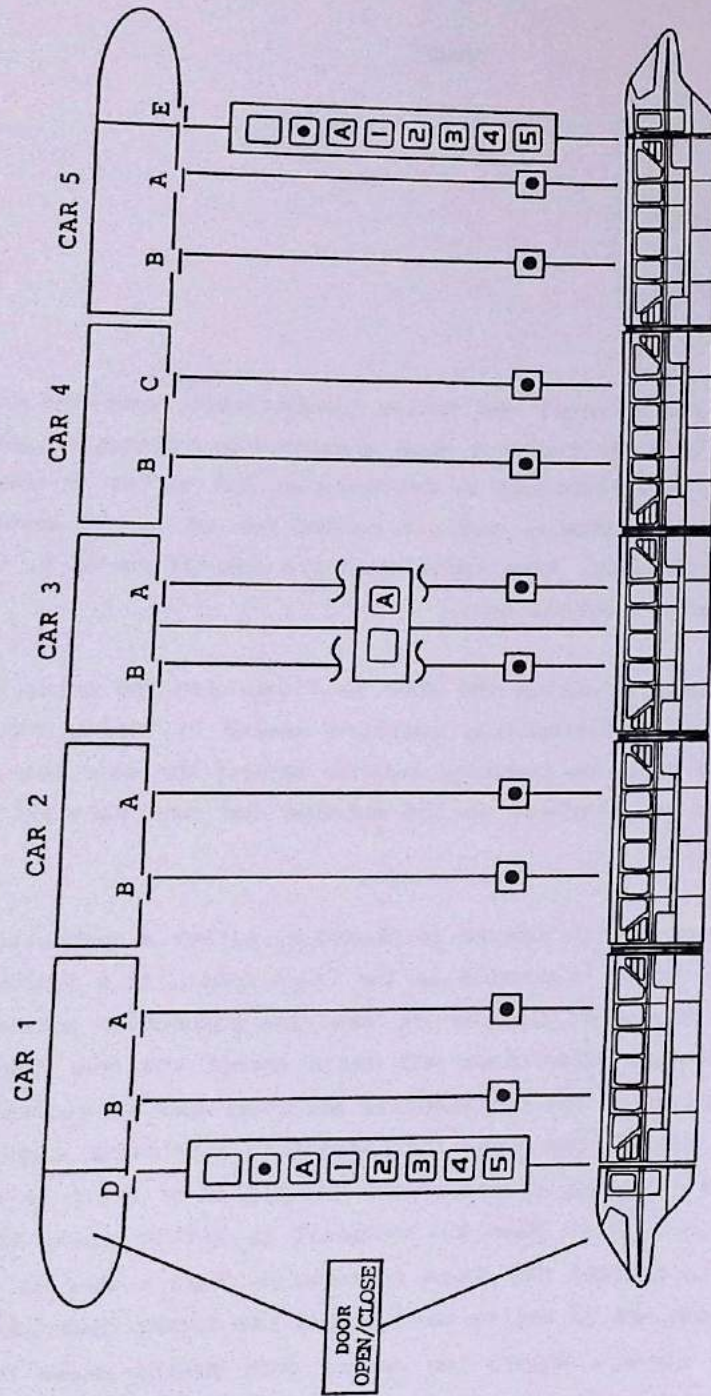

Fig. 1 Door Type and Control
1. Description and OperationA. Description (Fig. 1)
(a) Pushbuttons (Fig. 1)